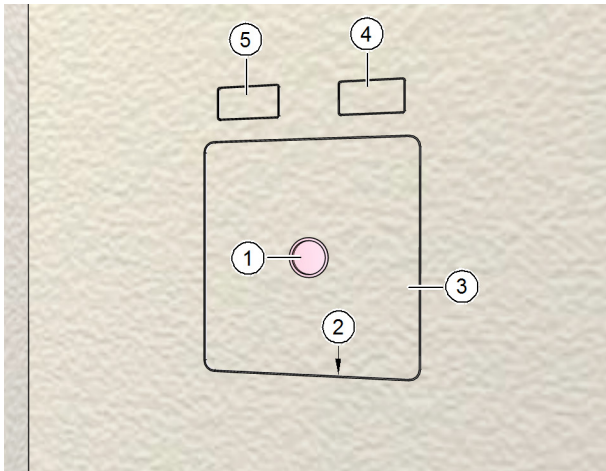

Fig. 24: Wall box plastered on the inside
- ▶ Remove the signal cover (item 1 in Fig. 24).
- ▶ Use a blade to score the plaster on the inside of the plastering trim (item 2 in Fig. 24).
- ▶ Carefully remove the protective cover (item 3 in Fig. 24).
- ▶ Remove the protective cover over the supply air duct (item 4 in Fig. 24) and / or exhaust air duct (item 5 in Fig. 24).